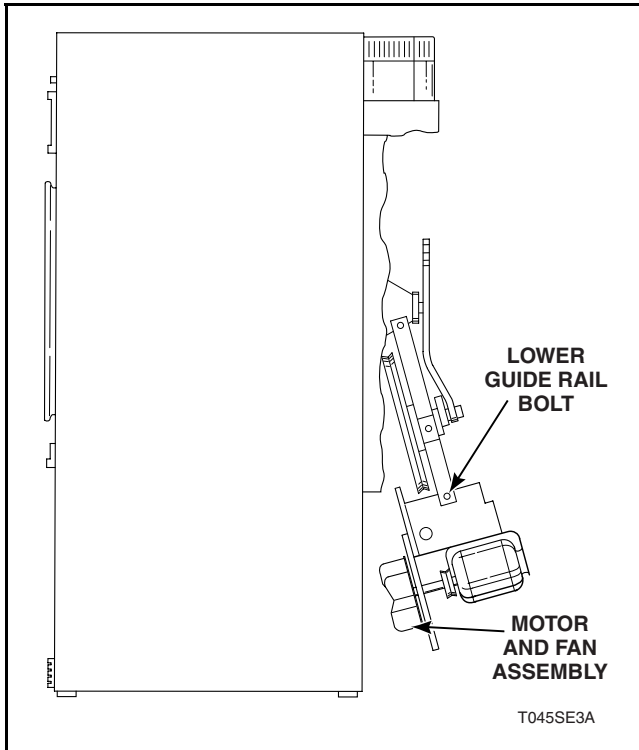

Figure 17
**NOTE:** After removing belt, replace the lower guide rail bolt. Refer to *Figure 17*.
- Using the guide rails as supports, swing motor and fan assembly out and away from rear of tumbler. Refer to *Figure 17*.
- e. Using the guide rails as supports, swing motor and fan assembly out and away from rear of tumbler. Refer to *Figure 17*.